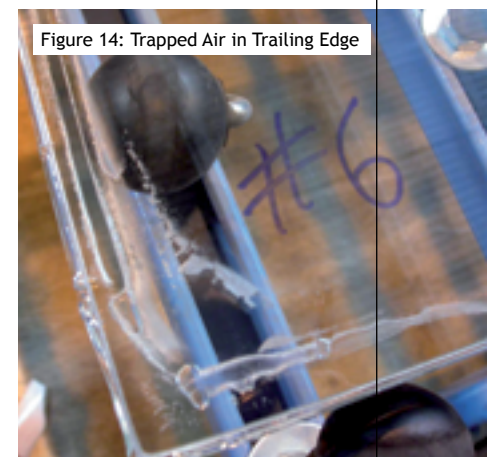

Figure 14: Trapped Air in Trailing Edge
- If a line of trapped air bubbles can be seen at the trailing edge of the prepress made on either a convective or IR line the laminate was most likely made at too high of a temperature resulting in a premature edge seal (see Figure 14).